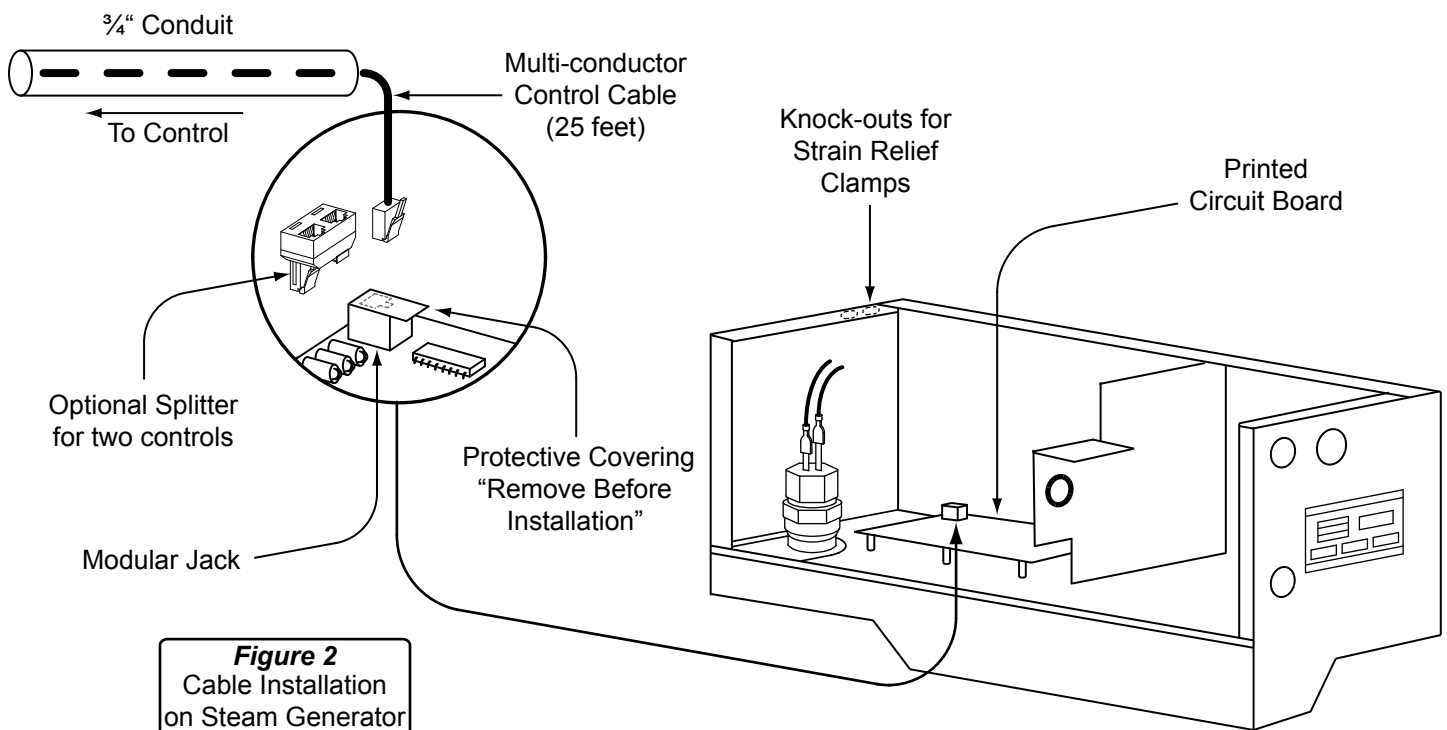

Figure 2
- a) Remove the multi-conductor cable from the control packing box. Carefully route the multi-conductor control cable from the Steambath Generator to the TC-110 located either inside or outside the steam-room (see Figure 2). Route multi-conductor cable through a 3/4" conduit to protect the cable from damage and to facilitate replacement if necessary.
- a) Locate the previously installed cable and black plastic strain relief clamp which is in the control packing box. Locate the knock-out on the steam generator for the control cable (see Figure 2).